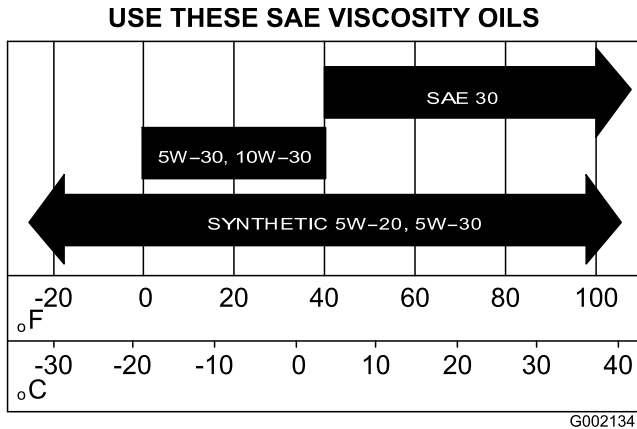

Figure 40
5. Fill the crankcase with the specified oil; refer to Figure 40 in Changing the Oil \(Models 07273 and 07273TC\) (page 34).